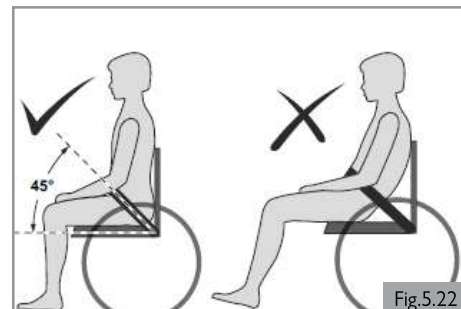

Fig.5.22
3. Generally, the lap belt should be fixed so that the belt sits at an angle of approximately 45° (Fig. 5.22), and when correctly adjusted should not allow user to slip down in the seat.